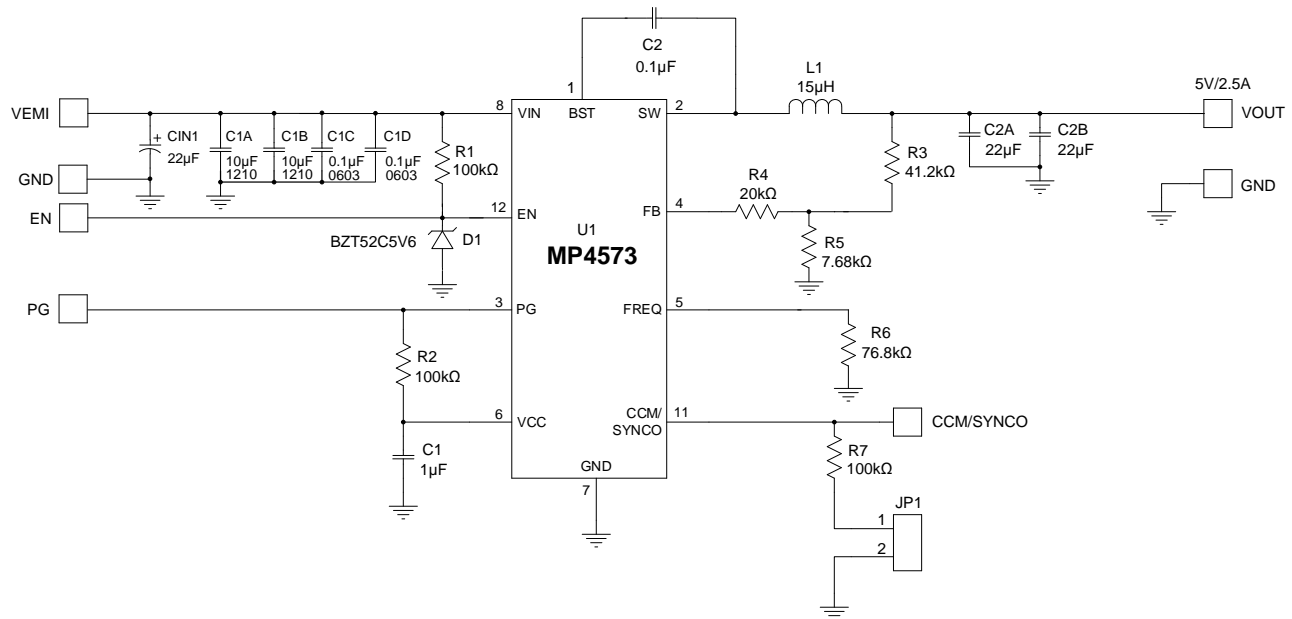

Figure 8: Typical Application Circuit
11) The recommended PCB layout is based on Figure 8 (see the Typical Application Circuits section on page 31).